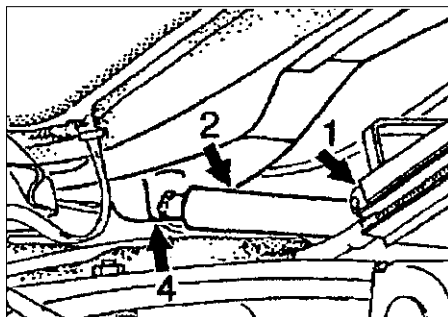

Figure 10
- The guide rail leaks at the lower end (arrow 1, figure 10).
- The water drainage pipes (arrows 2 and 3, figure 10 and 11) maybe damaged or incorrectly installed.
- The water drainage connector (arrow 4, figure 10 - drainage from the rear window) may be leaking.
- Seal the area of the guide rail unit with body sealer (arrow 1, figure 10).
- Correct the installation or if needed, replace the drain pipes (arrows 2 and 3, figure 10 and 11).
- Seal the drainage connector with body sealer (arrow 4, figure 10).